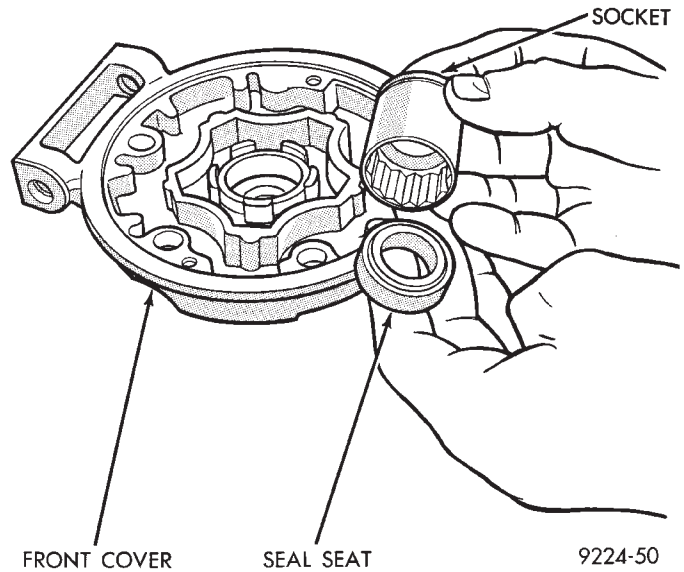

Fig. 15 Match Socket to Outer Seal Diameter
(4) Clean crankshaft and coat lightly with refrigerant oil.
(5) Lubricate crankshaft seal seat cavity of front housing with refrigeration oil.
(6) Lubricate crankshaft lip seal and seal O-ring with refrigeration oil. Then install lip seal in front cover using a socket that contacts the outer diameter of the lip seal (Figs. 15 and 16).